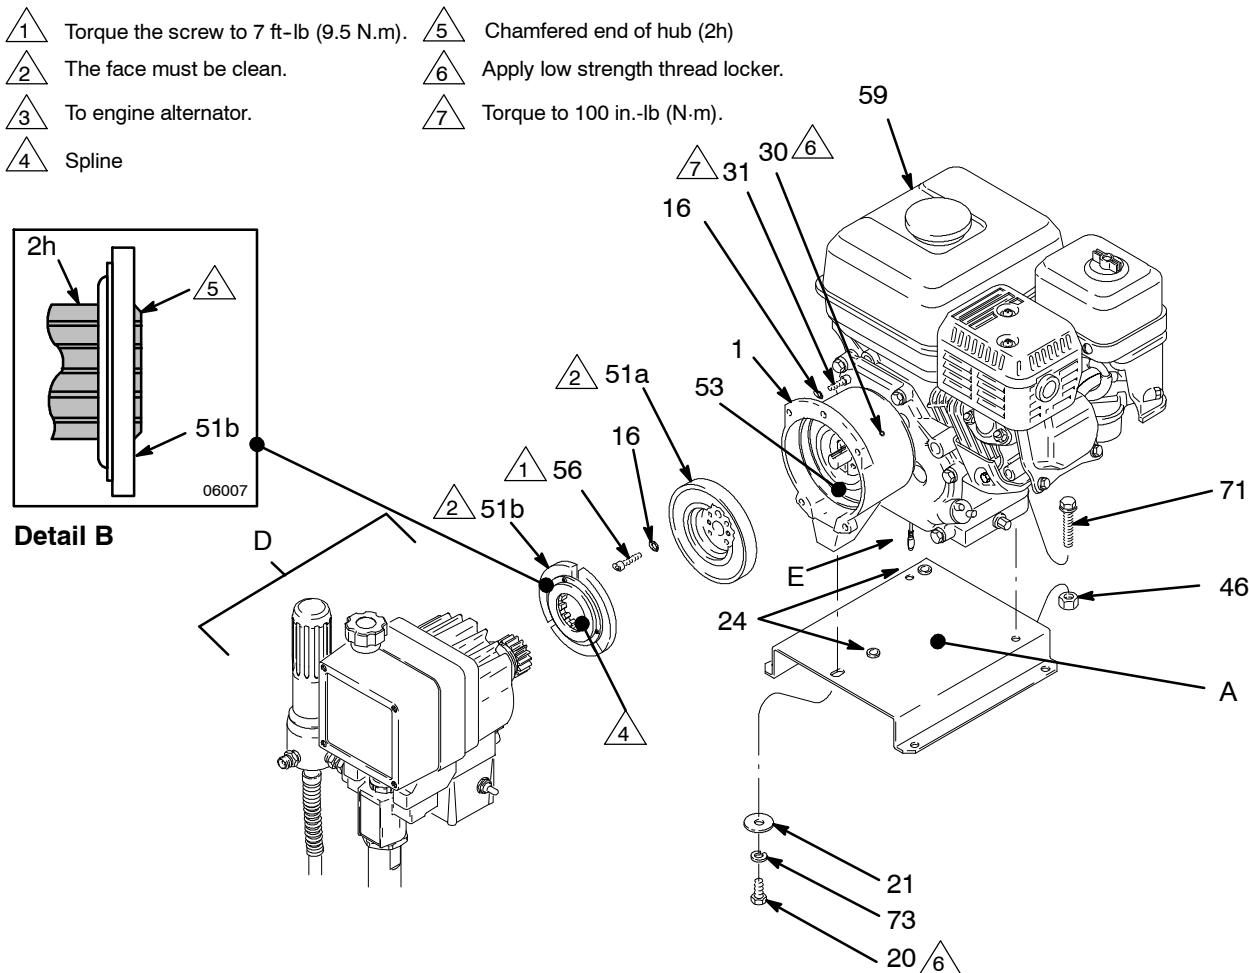

Fig. 25
- Be sure the face of the **rotor (51a)** and the clamp (55) are free of all burrs . Install the rotor, lock-washers (16) and capscrews (56). Torque the capscrews to 7 ft-lb (9.5 N.m). See Fig. 25.
- After installing the rotor (51a) the air gap must be adjusted between the rotor and the field (53). Tighten the setscrews (30) oppositely and evenly. Pull the engine recoil rope to assure that the engine turns freely, and there is no contact between the rotor and the field. If there is contact, loosen the setscrews and reposition the field.
- Clean the face of the **armature (51b)**. With the flat side of the armature facing the rotor (51a), slide the armature onto the hub (2h) in the drive/pinion assembly (D) just until the chamfered end of the hub (2h) protrudes through the armature. See Detail B, Fig. 25. There will be significant resistance. Attach the cardboard spacer, supplied with the clutch kit, to the face of the armature. Bend tabs over outside diameter of armature.
- Assemble the **drive assembly (D)** to the clutch housing (1), using the capscrews (31) and lock-washers (16). See Fig. 25.